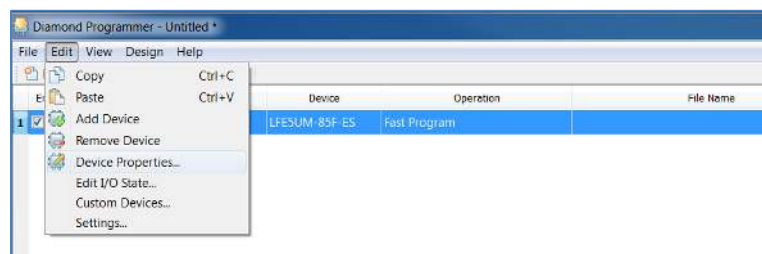

Figure 5.5. Access Device Properties through Edit
- Verify that the desired **Operation** is specified, and update if necessary. To update the operation, select the device row so that it is highlighted in blue as shown in Figure 5.5. On the menu bar, click **Edit**, and on the dropdown menu click **Device Properties** as shown in Figure 5.5.